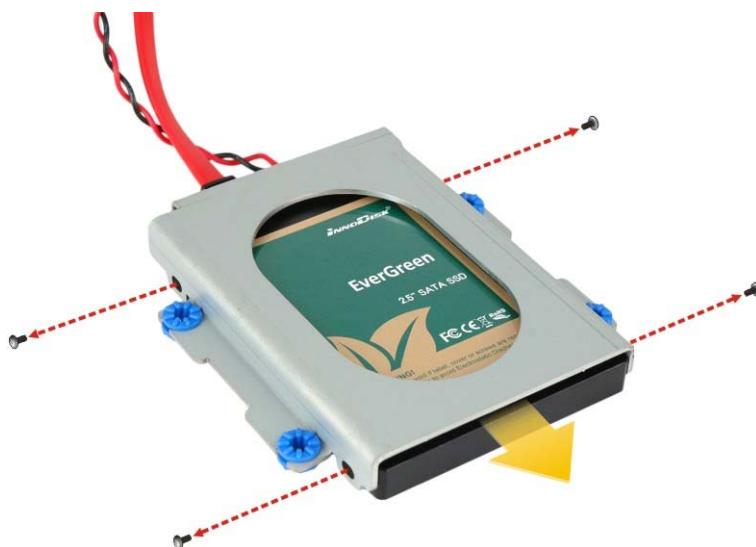

Figure 6-6: HDD Retention Screw Removal
Step 5: Remove the four HDD retention screws. Slide the old HDD to remove the HDD from the bracket. See **Figure 6-6**.